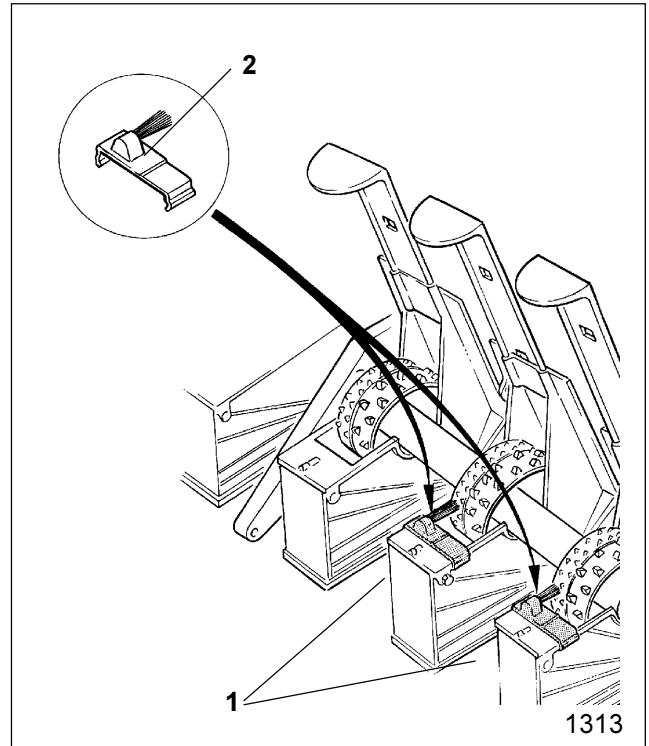

Fig. 18.25
- Mark where you wish the new tramline seed metering wheels (Fig. 18.25/1) to be by fixing the fine seed metering wheel brushes (Fig. 18.25/2) on to the new tramline seed housings. For creating one track up to three metering wheels, normally in exceptional cases also 4 or 5 seed metering wheels, can be shut off.